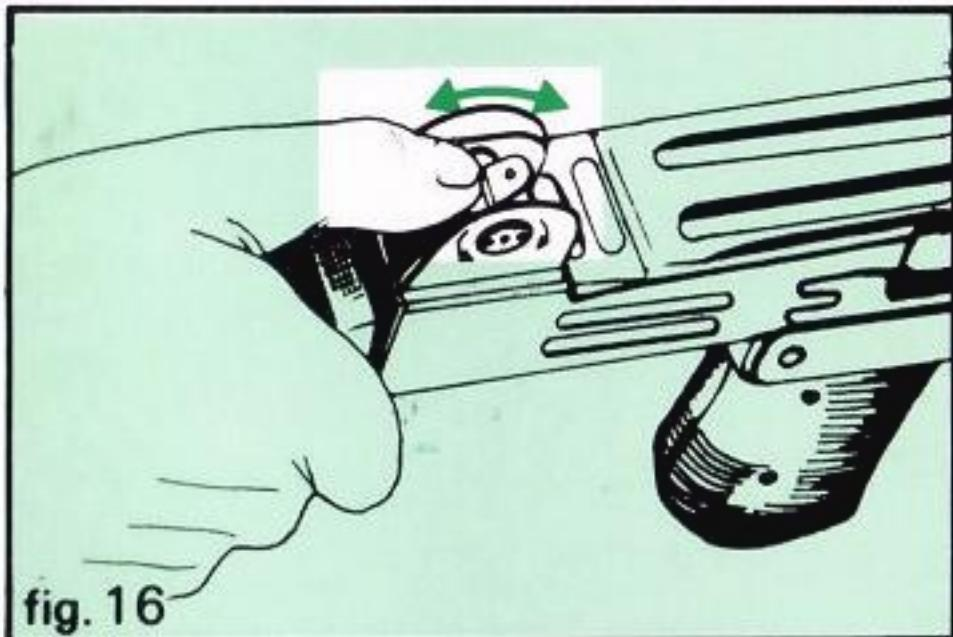

fig. 16
2. After loading the carbine as previously described, place rear sight at required range, 1 (100 m) or 2 (200 m) (fig. 16).